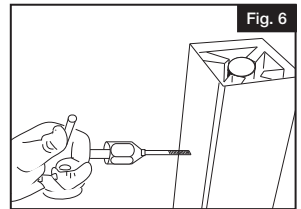

Fig. 6
2. Attach bracket to mounting surface using an appropriate fastener. If using a structural post, a drill and tap set will be required to attach the bracket to the interior galvanized steel post (Fig. 6).